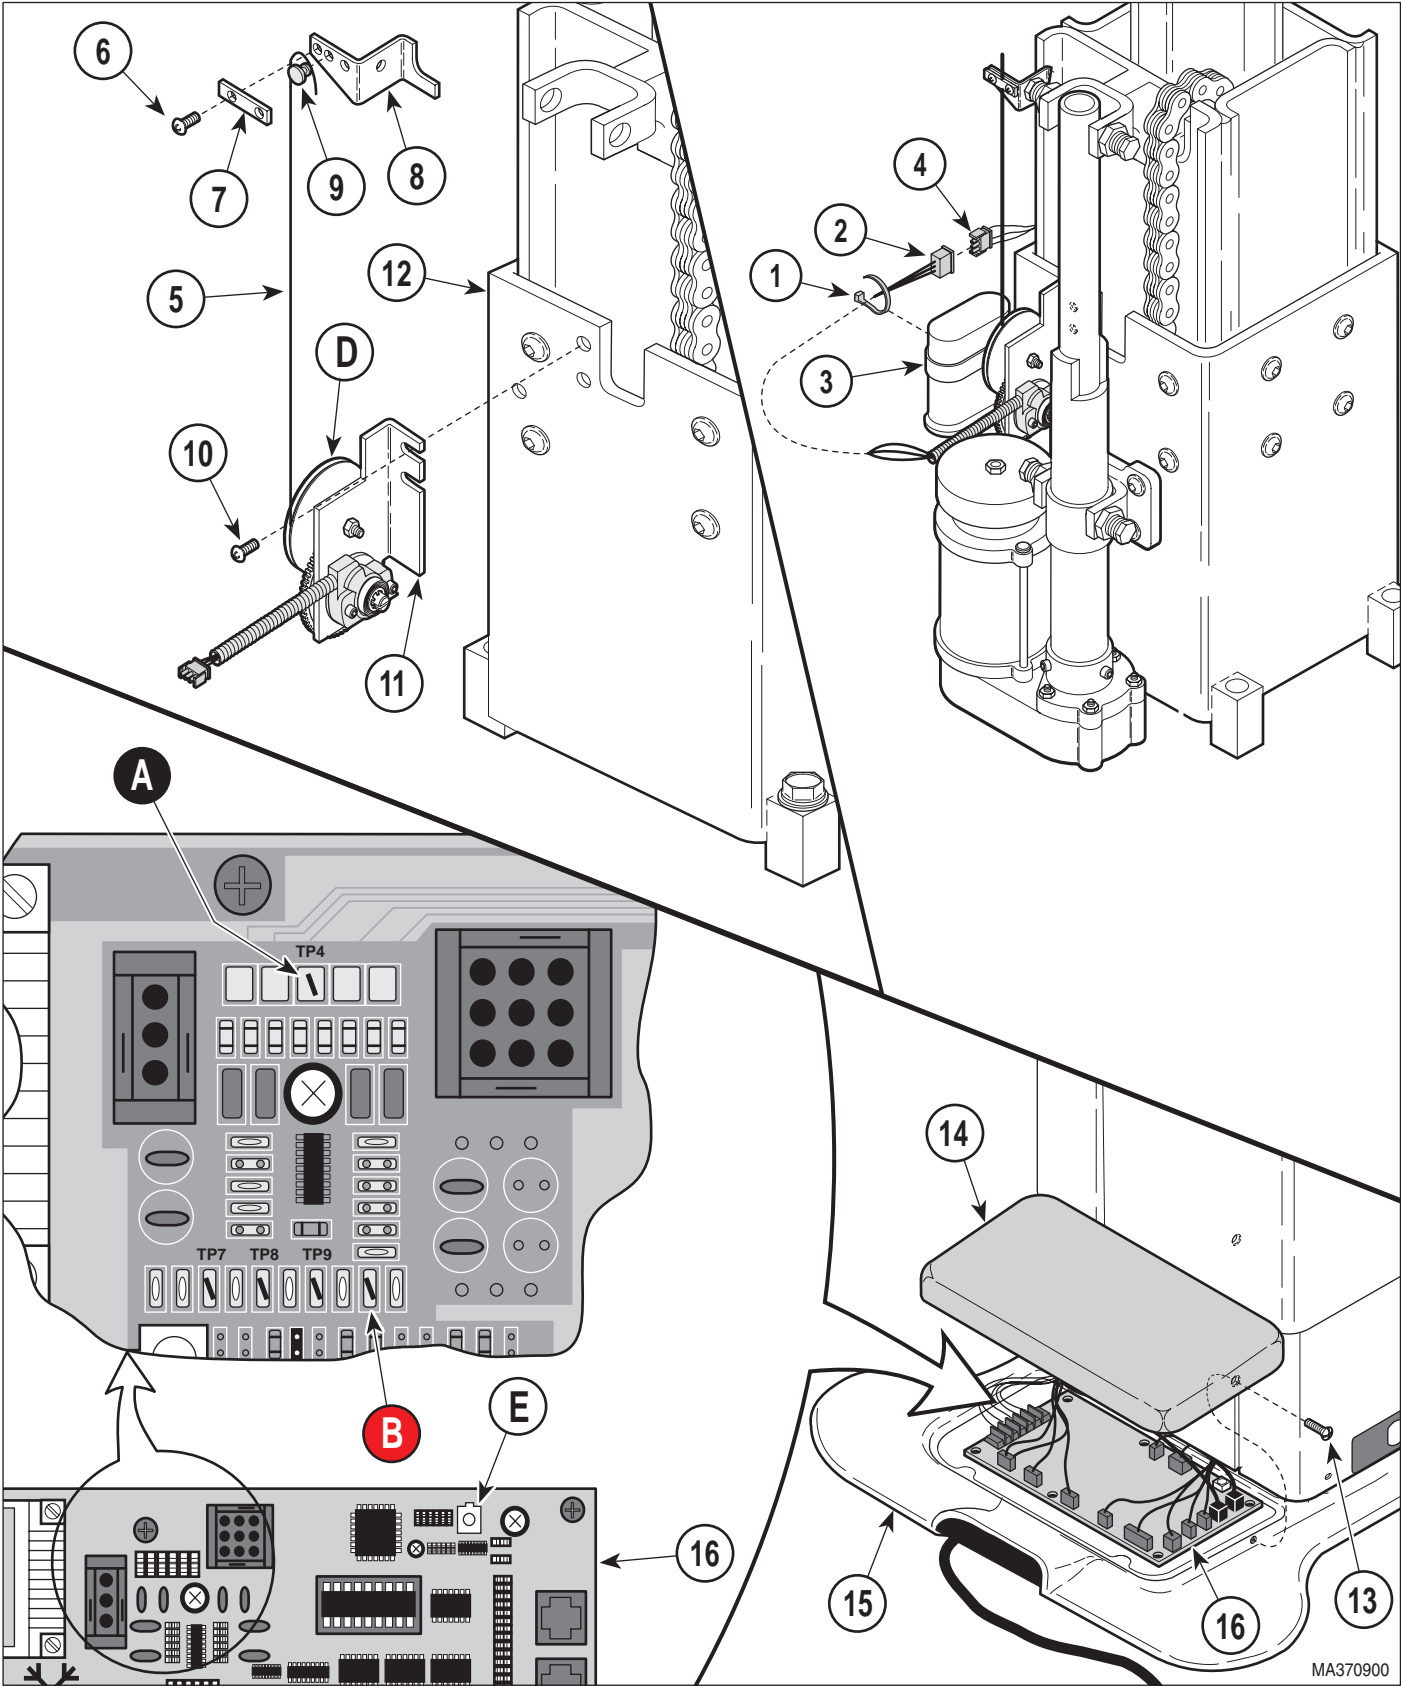
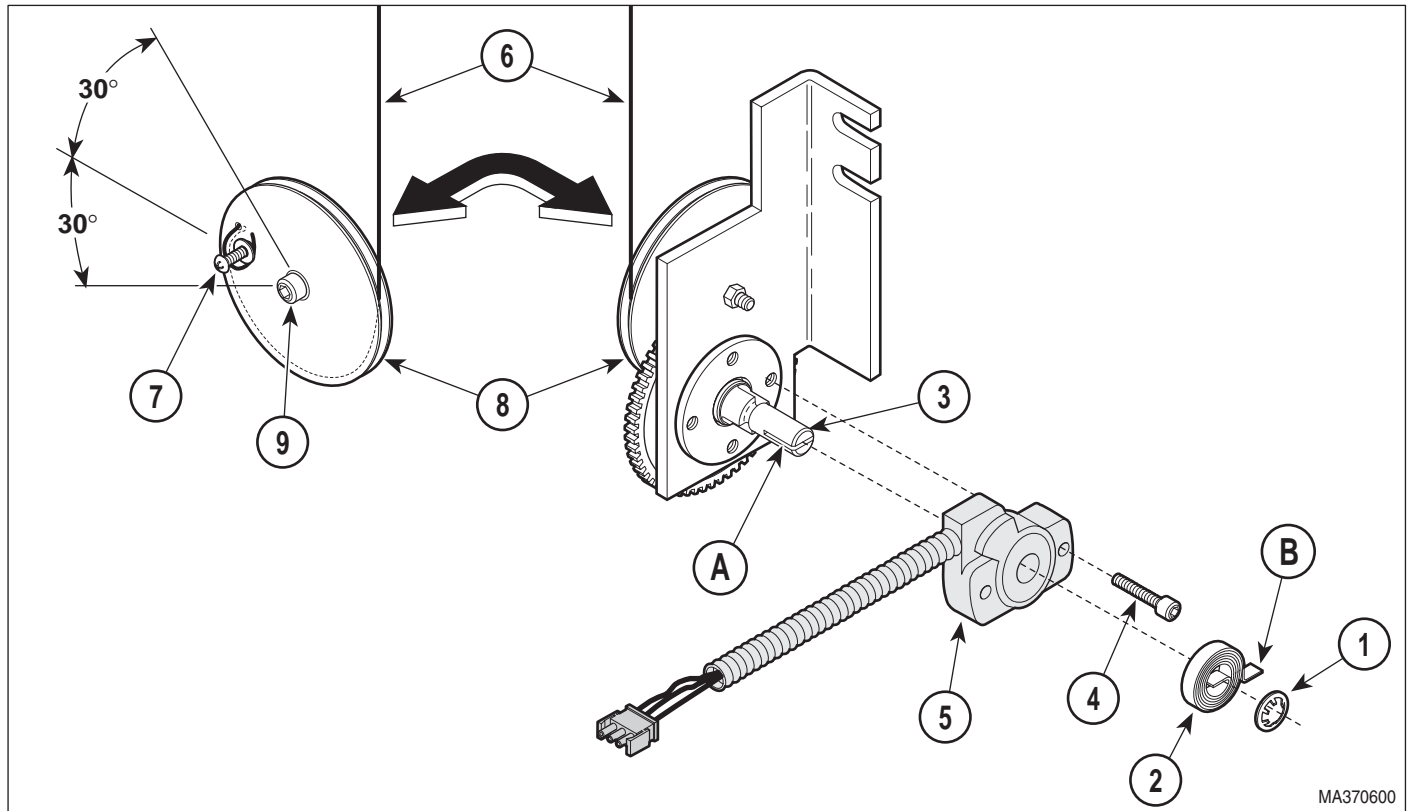

Figure 4-56. Base Reducer Assembly Removal / Installation
Figure 4-57. Base Position Sensor Removal / Installation
- (4) Remove four screws (4) and R.H. and L.H. middle shrouds (5).
(5) Disconnect one modular cord (6) from each inlet PC board (7).
(6) Remove four screws (8), four screws (9), two screws (10), two receptacle label plates (11), and partially remove R.H. and L.H. inner shrouds (12) from base casting (13).
(7) Cut cable tie (1, Figure 4-56) securing base sensor harness (2) to capacitor strap (3).
(8) Disconnect base sensor harness (2) from harness (4).
(9) While holding cable (5), remove two screws (6) and cable clamp (7) from cable bracket (8).
(10) Unloop end of cable (5) from around grommet bumper (9) and then slowly release tension from cable.
(11) Remove two screws (10) and base reducer assembly (11) from column assembly (12).
(12) Remove circular push-on (1, Figure 4-57) and torsion spring (2) from gear shaft (3).
(13) Remove two screws (4) and base position sensor (5) from gear shaft (3).
(1) Remove two screws (13, Figure 4-56) and PC board cover (14) from base casting (15).
(2) Connect negative (black) lead of multimeter to TP4 (A, Figure 4-56) and positive (red) lead of multimeter to Test Point (B) of PC control board (16).
- (3) Set multimeter to VDC setting. Then set the voltage range of the multimeter to the 0-20 VDC range.
- (4) Coat threads of two screws (4, Figure 4-57) with removable threadlocking adhesive (Loctite 242).
- (5) Install base position sensor (5) on gear shaft (3) and secure with two screws (4).
- (6) Install torsion spring (2) in slot (A) on end of gear shaft (3) while pushing tab (B) of torsion spring under head of screw (4).
- (7) Secure torsion spring (2) on gear shaft (3) with circular push-on (1).
- (8) If installing new cable (6), loosen screw (7) and remove old cable. Then, wrap one end of new cable (6) around screw (7) 1-1/2 times and secure in this place by tightening screw. Cut off any excess cable (6).
- (9) Install base reducer assembly (11, Figure 4-56) on column assembly (12) and secure with two screws (10).
- (10) Rotate pulley (8, Figure 4-57) in a clockwise direction until resistance is met. Then, check position of screw (7); it should be $\pm 30^\circ$ of the position shown on illustration. If not, remove screw (9), remove and rotate pulley (8) to correct orientation, and then reinstall with screw (9).
- (11) Connect base sensor harness (2, Figure 4-56) to harness (4).
- (12) Secure base sensor harness (2) to capacitor strap (3) with a cable tie (1).
- (13) Plug table power cord into outlet receptacle.
- (21) Connect one modular cord (6) to each inlet PC board (7).
- (22) Assemble R.H. and L.H. middle shrouds (5) around inner shrouds (12) with four screws (4).
- (23) Install tabs (A) of R.H. and L.H. outer shrouds (12) in slots (B) of column adapter weldment (3) and secure with four screws (1), making sure middle outer shroud assembly (5) is captured by R.H. and L.H. outer shrouds (2).
- (24) Remove multimeter leads from TP4 (A) and Test Point (B) of PC control board (16).
- (25) Unplug table power cord from outlet receptacle.
- (26) Depress and hold the PROGRAM / FAULT CLEAR button (E, Figure 4-56) while simultaneously plugging the table power cord into the outlet receptacle.
- (1) Perform steps 1 thru 6 of para 4.43, Removal.